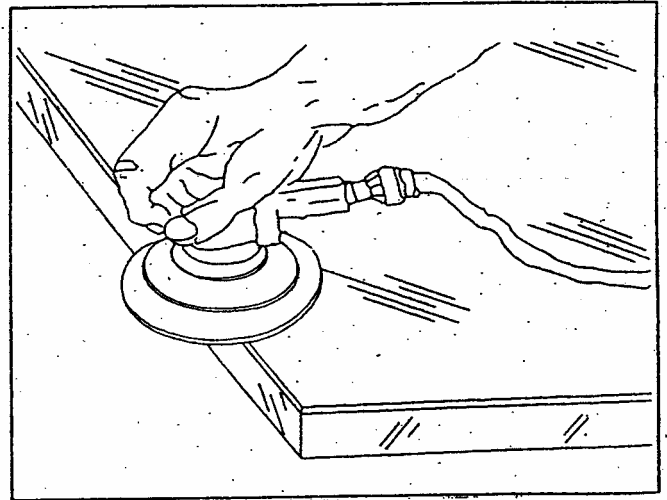

Figure 6
4. Lightly sand the front and back edges to ensure the strips are even with the substrate. See Figure 6.